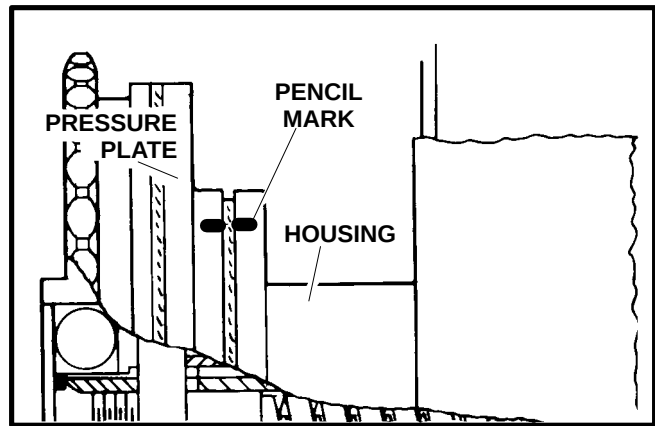

FIGURE 22
1. Remove belt shield and cut-off blade for easier access to clutch assembly. With pressure plate in the locked position (ram is locked into the "UP" position) draw a pencil mark across the housing and pressure plate. See Figure 22.